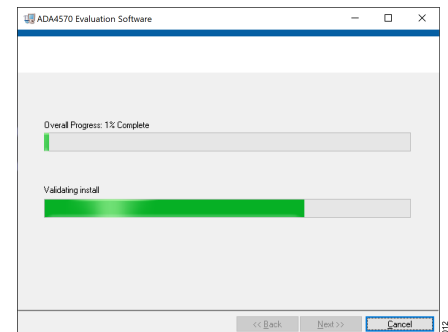

Figure 12. Overall Progress
7. A pop-up window then opens and displays a bar showing the installation progress, as shown in Figure 12.